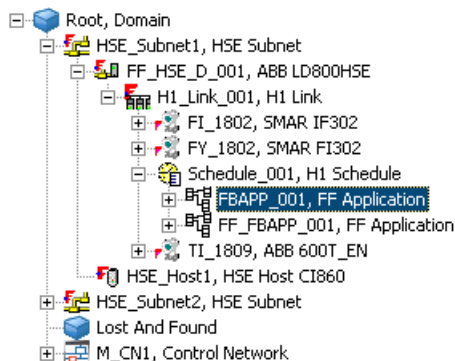

Figure 165. Selection of the FF Application
1. Select an **FF Application** object in the Plant Explorer **Control Structure** (refer to Figure 165).